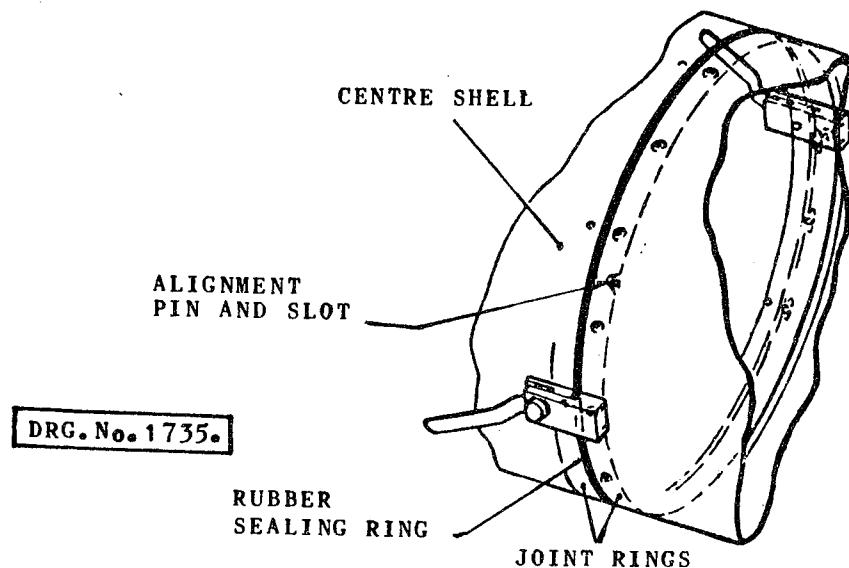

Fig.1C Special tools as used when assembling
- (ii) Fit tools 4G/4420526 (4 off) to bottom and side positions of joint rings. (Fig.1C).